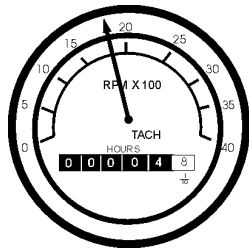

Figure 56. Engine Tachometer
15. The tachometer (Figure 56) will indicate the speed of the engine when the generator is operating. Under normal operating conditions this speed is approximately 1800 RPM's.